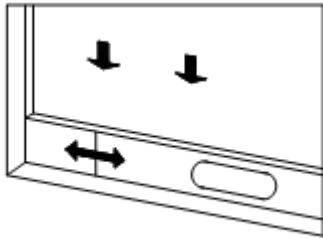
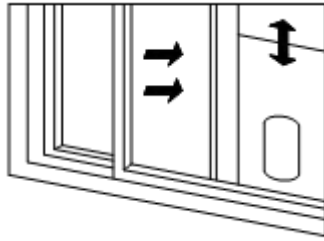

Figure 2
Figure 3
1) Half open the window, and mount the window sealing plate assembly to the window (as shown in Fig.2 and Fig.3). Components can be placed in horizontal and vertical direction.